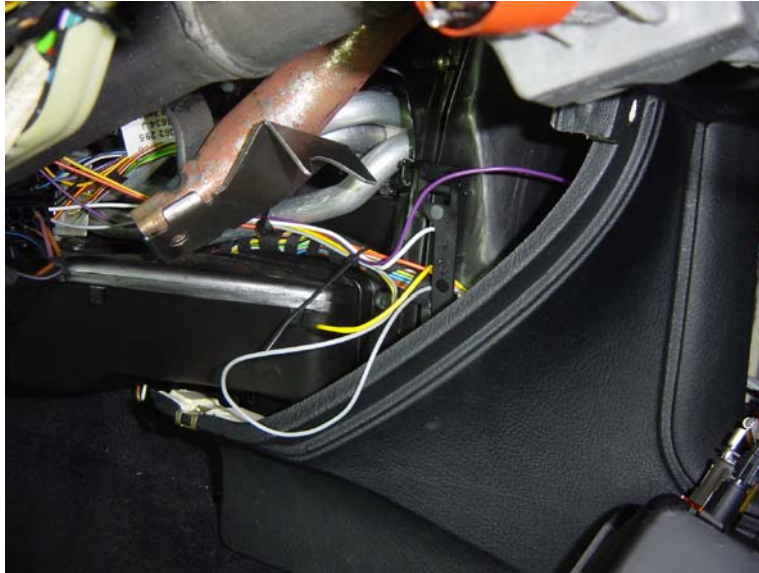

Figure 15 – Route wire around console toward firewall.
- ii) Route X1071-Pin4 (orange wire) to the OBC Stalk Harness located under the dash near the lower steering column. Route the orange wire from the OBC location at the center console toward the the driver's side footwell (**Figure 14**), behind oem harness clip (**Figure 15**), toward firewall, around and then up lower steering column.